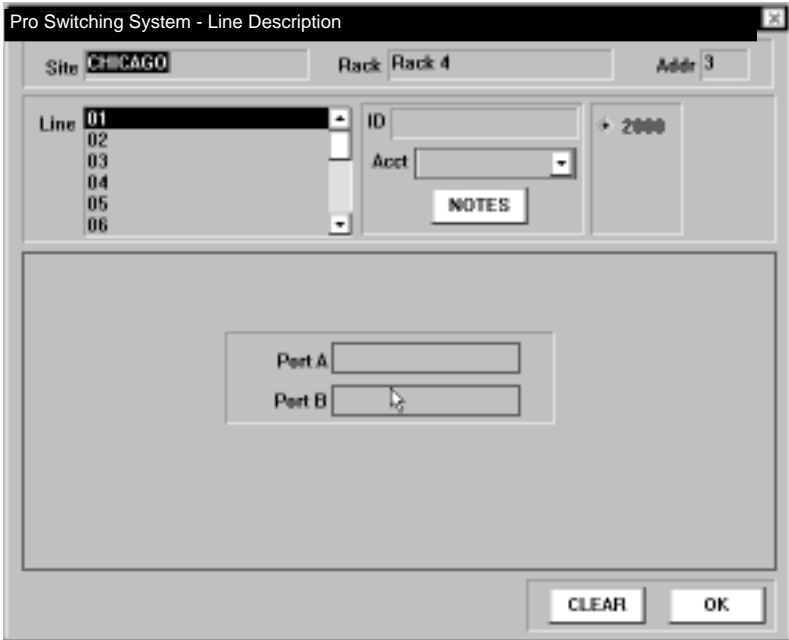

Figure 6-9. Line Description Screen.
2. From the Rack Description screen, click on one of the line buttons (1 through 16) in the lower portion of the screen. The Line Description screen (Figure 6-9) for that line card appears.